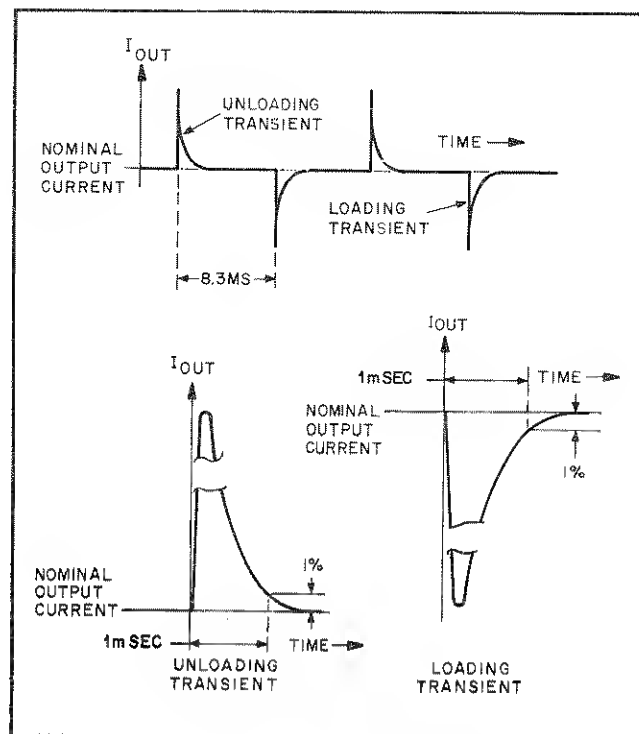

Figure 5-6. Load Transient Recovery Time, Waveforms
- Adjust 25K potentiometer until stable display is obtained on oscilloscope. Recovery waveform should be within tolerances shown in Figure 5-6. Output should return to within $\pm 100\text{mV}$ of nominal value in less than 1 millisecond.